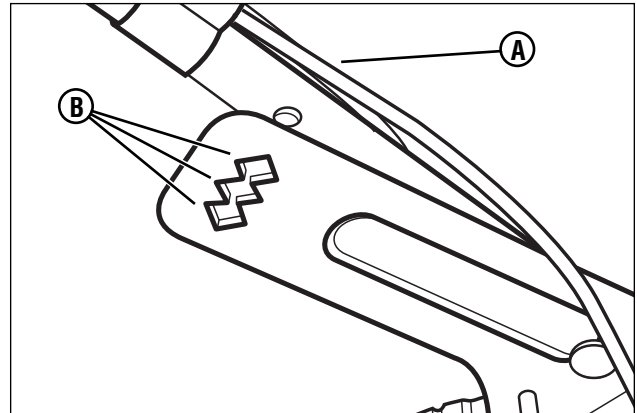

Figure 5: Adjusting the handle height
1. Remove the handle knobs, washers and carriage bolts from the lower handle (**A, Figure 5**).